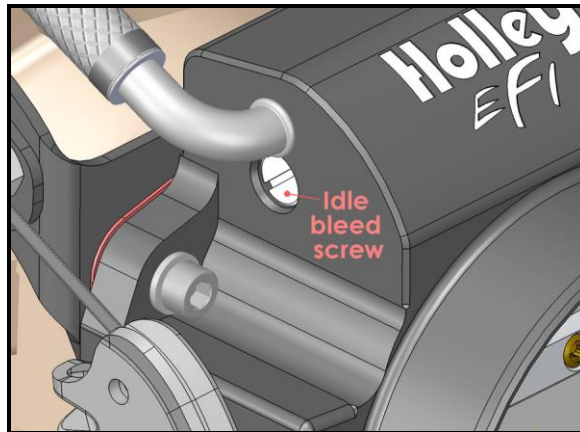

Figure 6
2. If idle is low or rough, adjust the bleed screw (**Figure 6**) counter-clockwise. This will increase idle RPM.